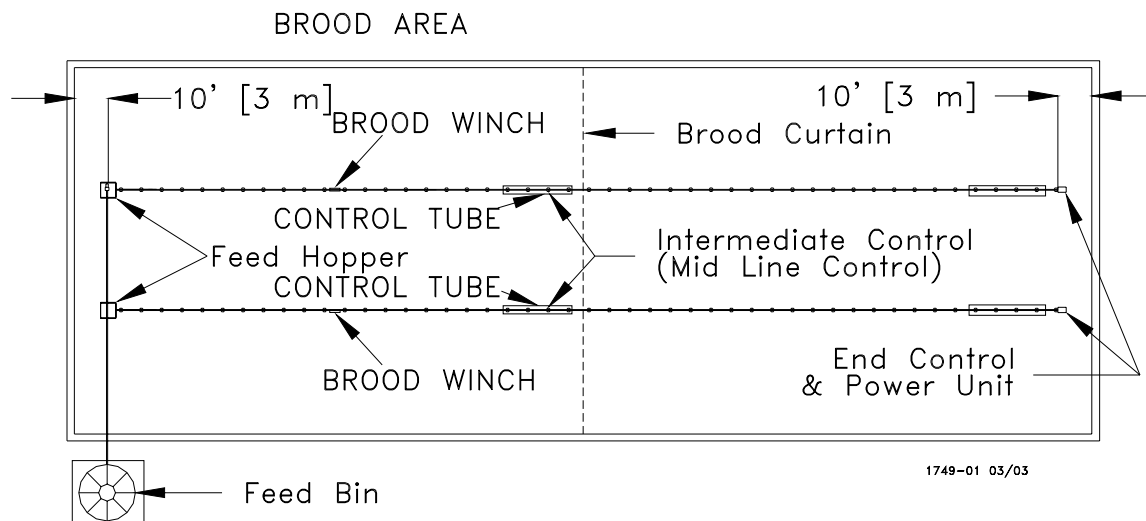

Figure 1. Component location diagram for systems up to 400 feet [122 m]. (Top View).
- A. Optional Mid Line Controls may be used for partial house brooding. See “**Figure 1. Component location diagram for systems up to 400 feet [122 m]. (Top View).**” on page 8.